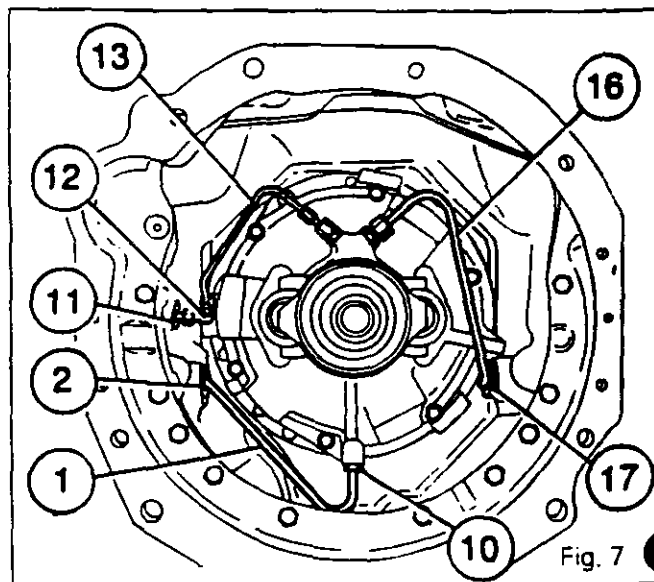

Fig. 7
- pipes **(13)** and **(16)**, the union **(12)** (Fig. 7 and 8) (tractors 3000 and 3100)
- the tube **(1)**.Remove the union **(10)** (Fig. 7 and 8) (tractors 3000 and 3100).
Disassemble the grommets **(2)**, **(11)** and **(17)** (Fig. 7 and 8) (tractors 3000 and 3100).